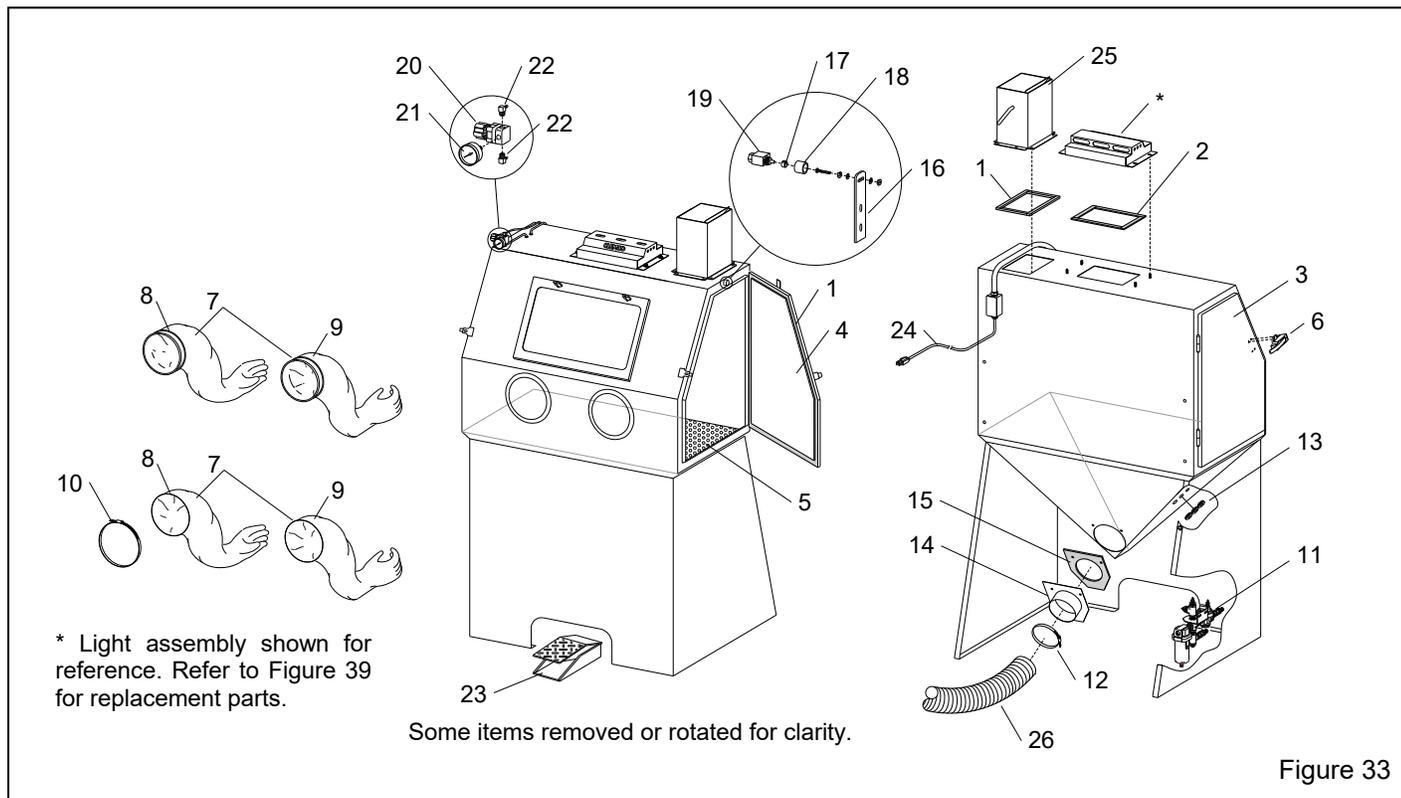

Figure 33
9.2 Cabinet Replacement Parts – Figure 33